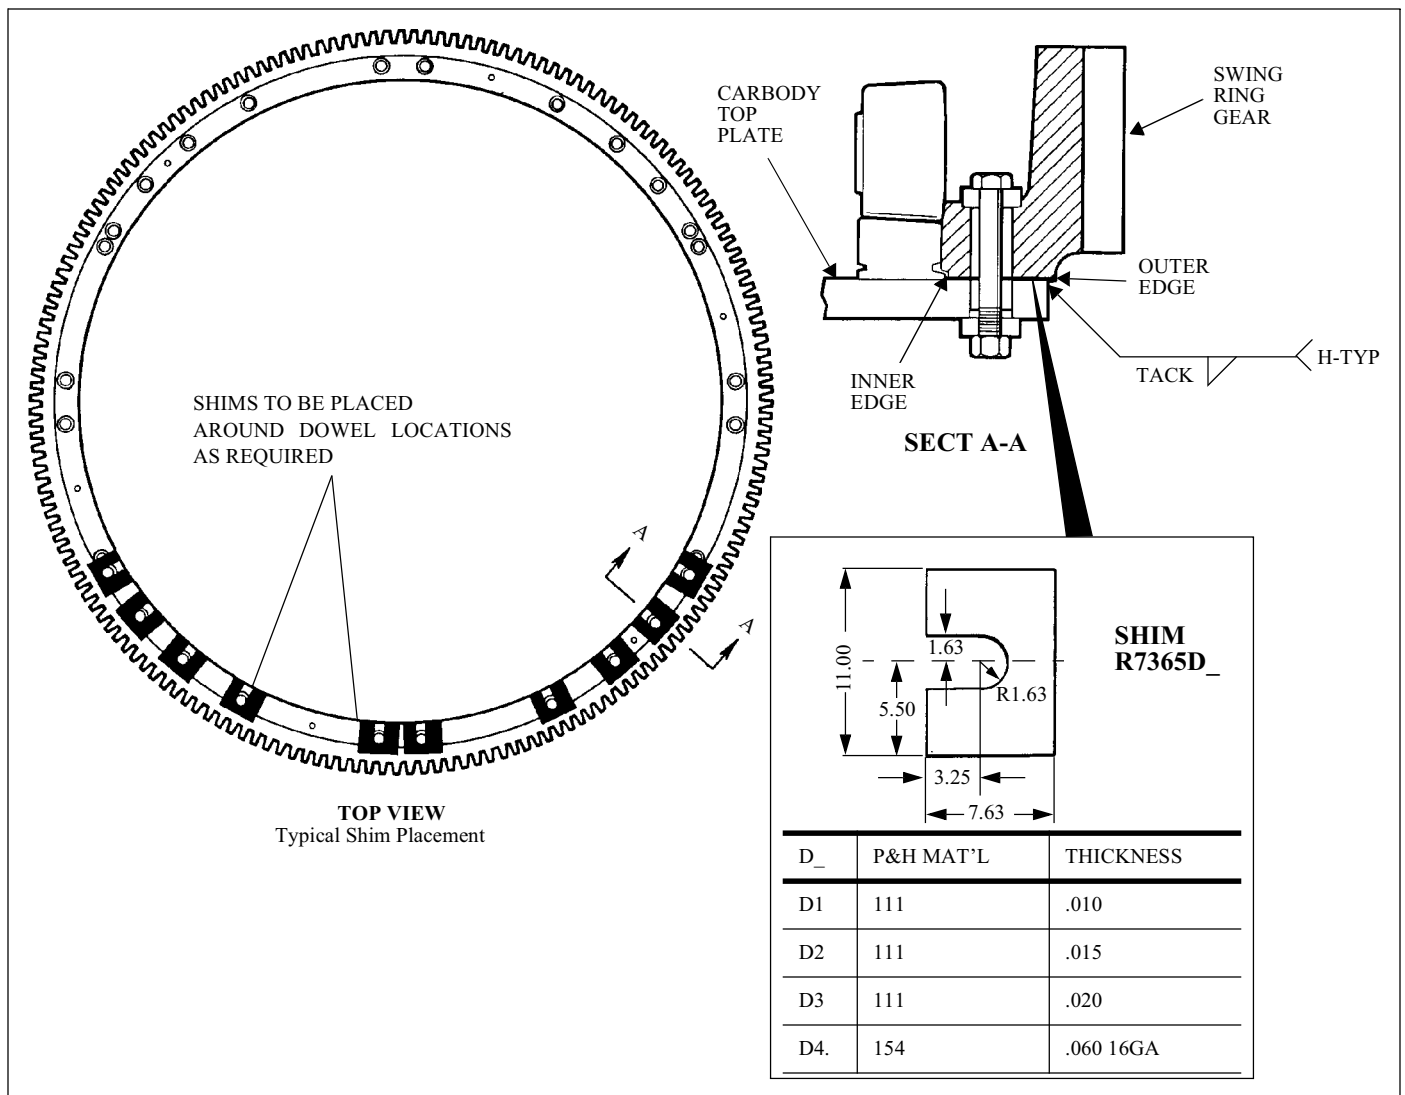

Figure 3-21. Ring Gear Shimming
3. Check for a gap at all shear pin locations. If a gap exists at any location, check the shear pin bolts for proper torque. If bolt torques are greater than 50% of the 100% torques listed in Figure 3-21, loosen all bolts and go to Step 4.
4. Loosen all bolts, then torque the bolts to the 50% torque shown in Figure 3-21.
6. Build a shim pack each location with a thickness equal to the measured gap +0.000 to 0.005 inch. Shims can be made locally using the dimension shown in Figure 3-21 or can be purchased from P&H using the part numbers listed.
8. Torque all bolts to the 50% torque, then torque to 100% as shown in Figure 3-21